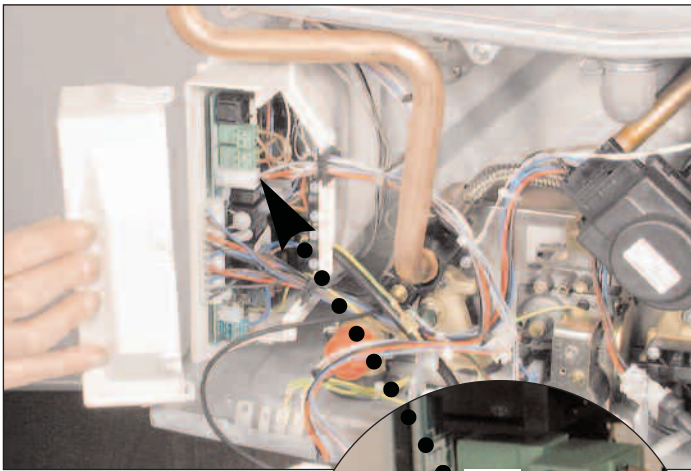
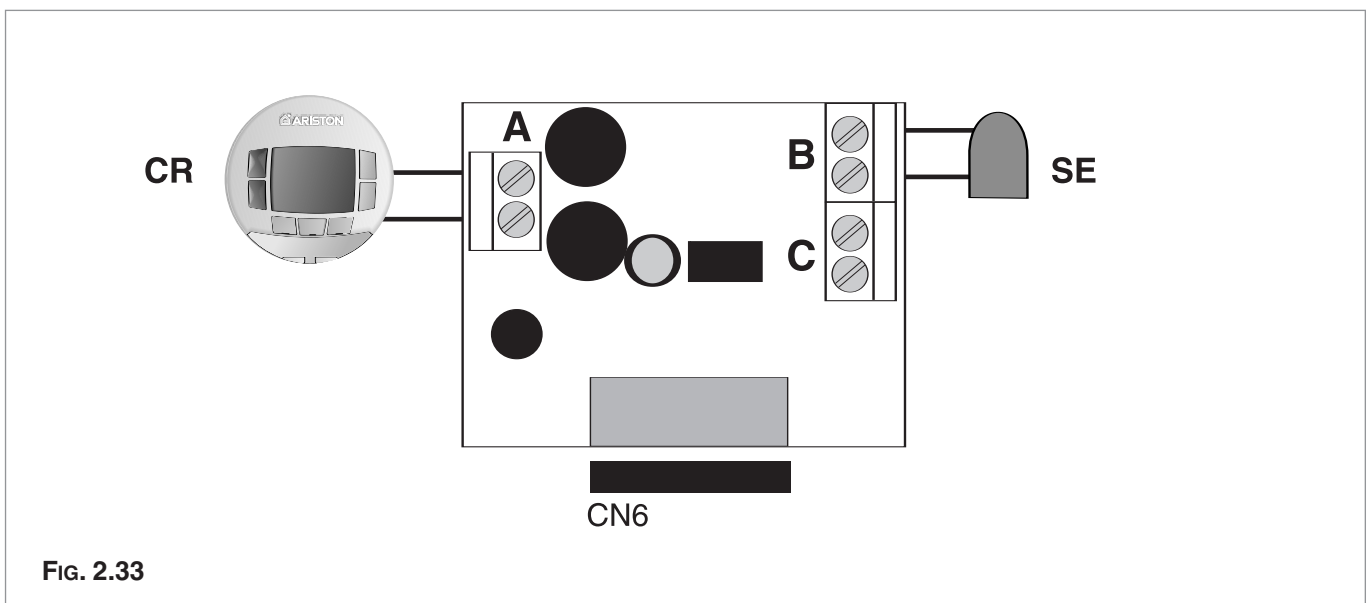

FIG. 2.31
Fig. 2.33
1. Remove the cover of the main PCB box (Fig 2.31).
- CN10 - Safety thermostat for underfloor heating (SP)
- CN 9 - Room Thermostat (TA)
- CN 6 - Interface PCB (Fig. 2.33)
The external sensor is supplied with the interface PCB (Fig. 2.33).
To connect the external sensor, plug the interface PCB into connector **CN6** on the main PCB (see Fig. 2.33).
To connect between the interface PCB and the external sensor, it will be necessary to use 2x 0.5mm² cable, connected to the two terminals on the external sensor and to Terminal B (Fig. 2.33) on the interface PCB.